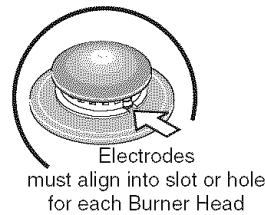
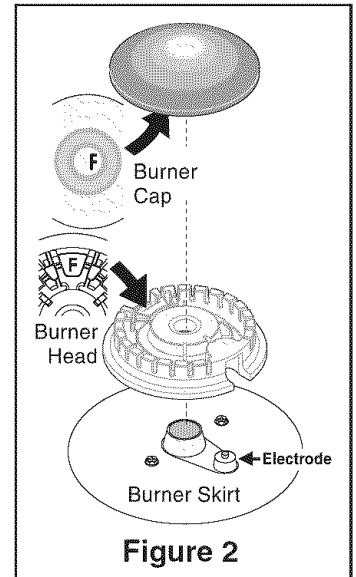

Figure 1
Figure 2
3. To replace Burner Heads & Caps, match the letters located under center of Burner Caps with the letters located inside Burner Head (See Figure 2).
4. Match the letters stamped on Burner skirts with Burner Heads and Burner Caps on cooktop (See Figure 2). Carefully align the Electrodes into slots or holes of the Burner Heads (Figure 1). Note: The Burner Heads should sit flat on Cooktop Burner Skirts.